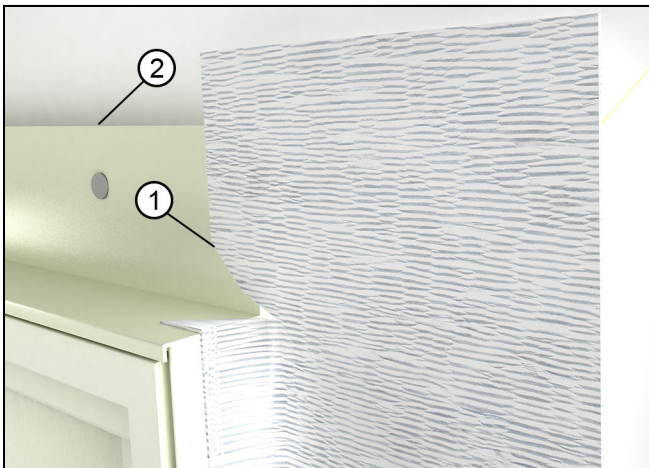

Figure 64
6. Lap vertical strips of adhesive flashing tape onto the window and out over the WRB. Make small diagonal cuts at the head jamb as in Figure 64 to allow the membrane to fold back onto the exterior and frame.